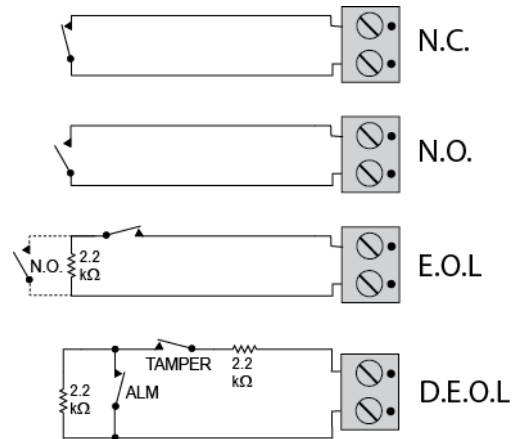

Figure 4. AUX Input Wiring Examples
2.2 Auxiliary Input Wiring (Fig. 4)
Normally Closed (N.C.) or Normally Open (N.O.) sensor contacts can be used, as shown in Figure 4. A 2.2kΩ E.O.L. resistor must be wired at the far end of the zone loop. An alarm message is transmitted once the loop is opened or short circuited.
Two Normally Closed (N.C.) sensor contacts can be used, as shown in Figure 4. Two 2.2kΩ E.O.L. resistors must be wired at the far end of the zone loop which is opened or short circuited. Events messages are transmitted according to connected inputs, for example, Alarm or Tamper contacts.